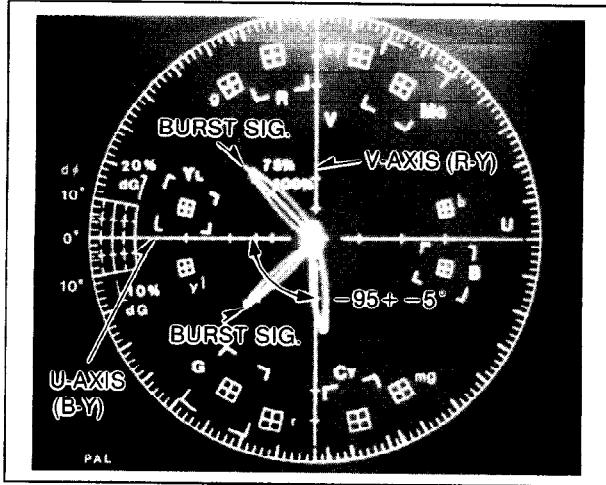

Fig. E24
2. Adjust C822 so that the pilot burst phase comes  $-95 \pm 5'$  as shown in Fig.E24.